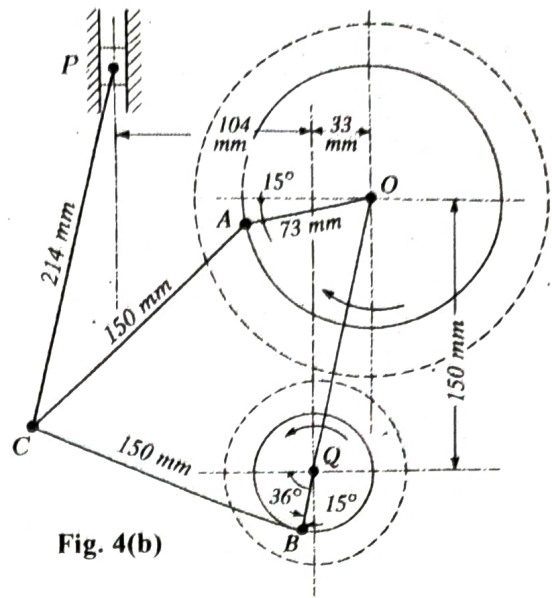

Fig. 4(b)
4. (a) In a four-bar chain ABCD, AB is the driving link, CD the driven link and AD the fixed link. Show that the angular velocity of CD is to that of AB as QA is to QD, where Q is the point of intersection of BC and AD, produced if necessary. When the links AB, BC, CD and DA are respectively 250 mm, 700mm, 450 mm and 800 mm. long, the angle BAD is 60° , AB and DC are on opposite sides of AD and the velocity of B is 3 m/s., find the velocity of C and the angular velocity of BC. (4).
- (b) For the mechanism shown in Fig. 4(a), point out all the instantaneous centers and determine the linear velocity of link 6. Given that $r_{O_2O_3} = 6.0\text{cm}$; $r_{O_2B_2} = 4.0\text{cm}$; $r_{O_3C} = 11.0\text{cm}$; $r_{CD} = 5.0\text{cm}$; $\theta_2 = 30^\circ$; $\dot{\theta}_2 = 20\text{ rad/sec (CCW)}$. (6)
- (c) The dimensions of the *Andreau differential-stroke-engine* mechanism, Fig. 4(b), are: $OA = 73 \text{ mm}$, $QB = 36.5 \text{ mm}$, $AC = BC = 150 \text{ mm}$, $CP = 214 \text{ mm}$. OA and QB are geared together so that QB turns at twice the speed of OA and in the opposite sense to OA . Find the velocity of the piston P for the given configuration, when OA makes 700 r.p.m. (3.5). (O and Q are fixed)